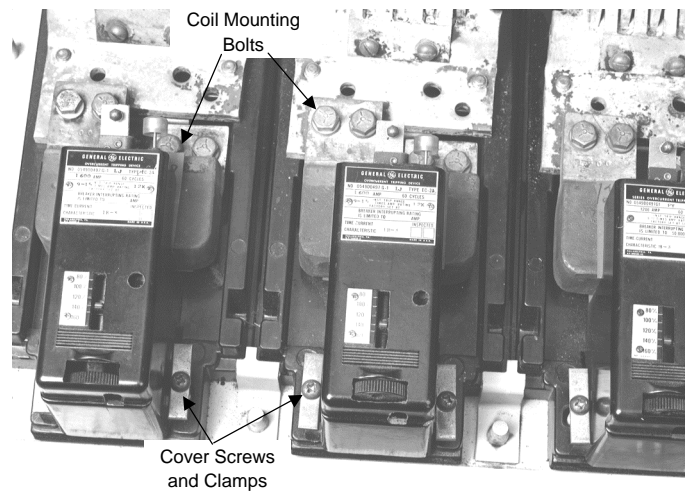

Figure 16. Existing EC trip devices before removal.
1. Remove and discard the two screws at the base of each trip device, as shown in Figure 16. Discard the metal mounting brackets.